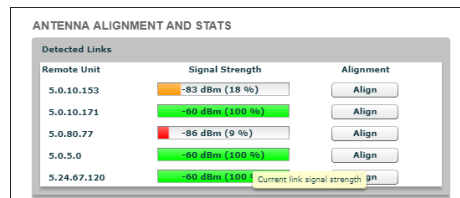

Figure 26. Configurator GUI (Antenna alignment and stats dialog)
- The **ANTENNA ALIGNMENT AND STATS** window will be shown (Figure 26 (page 71)).